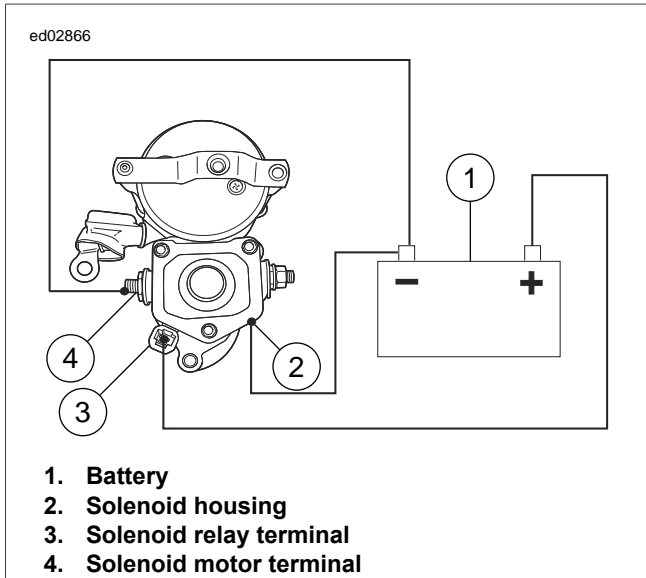

Figure 3-7. Pull-In Test
Do not disassemble solenoid. Before testing, disconnect field wire from solenoid motor terminal as shown in Figure 3-7.
- See Figure 3-7. Using a 12V battery, connect three separate test leads as follows: